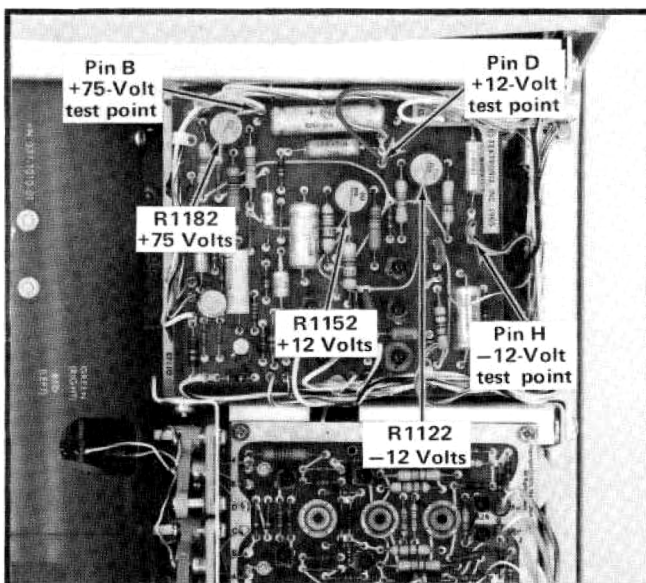

Fig. 5-4. Low-voltage power supply test points and adjustments (Low-Voltage Regulator circuit board).
- b. Connect the precision DC voltmeter between the -12-volt test point (see Fig. 5-4) and chassis ground.
- d. ADJUST— -12-Volts adjustment R1122 (see Fig. 5-4) for a meter reading of exactly -12 volts.
- d. ADJUST— +12 Volts adjustment R1152 (see Fig. 5-4) for a meter reading of exactly +1 volt.
- i. Connect the precision DC voltmeter between the +12-volt test point (see Fig. 5-4) and chassis ground.
a. Connect the precision DC voltmeter between the +75-volt test point (see Fig. 5-4) and chassis ground.
c. ADJUST— +75 Volts adjustment R1182 (see Fig. 5-4) for a meter reading of exactly +75 volts.
f. CHECK—0.4 division maximum peak-to-peak (two millivolts) line frequency ripple on the -12-Volt, +12-Volt, and +75-Volt supplies while changing the autotransformer output voltage throughout the regulating range selected by the Line Voltage Selector assembly on the rear panel. Power-supply test points are shown in Fig. 5-4.